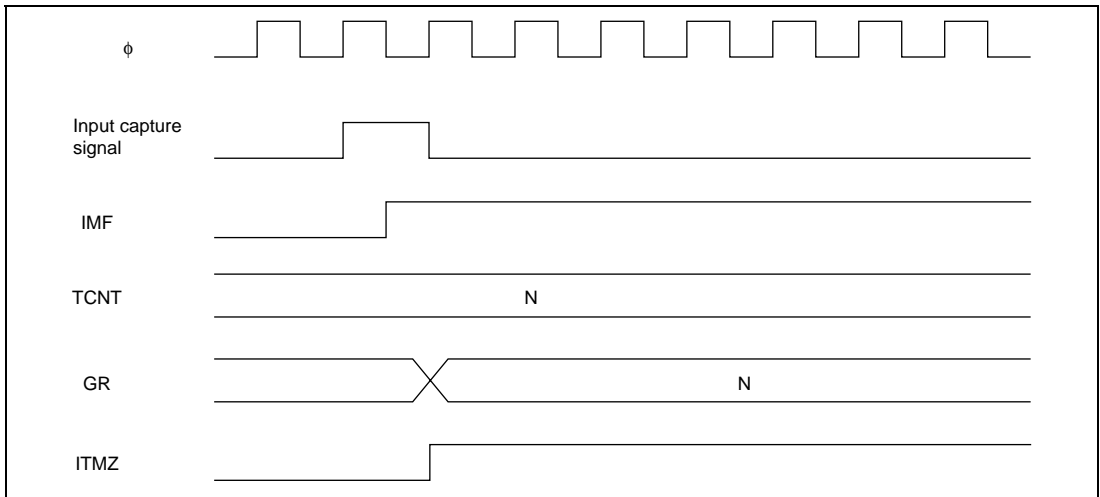

Figure 13.49 IMF Flag Set Timing at Input Capture
- IMF Flag Set Timing at Input Capture: When an input capture signal is generated, the IMF flag is set to 1 and the value of TCNT is simultaneously transferred to corresponding GR. Figure 13.49 shows the timing.